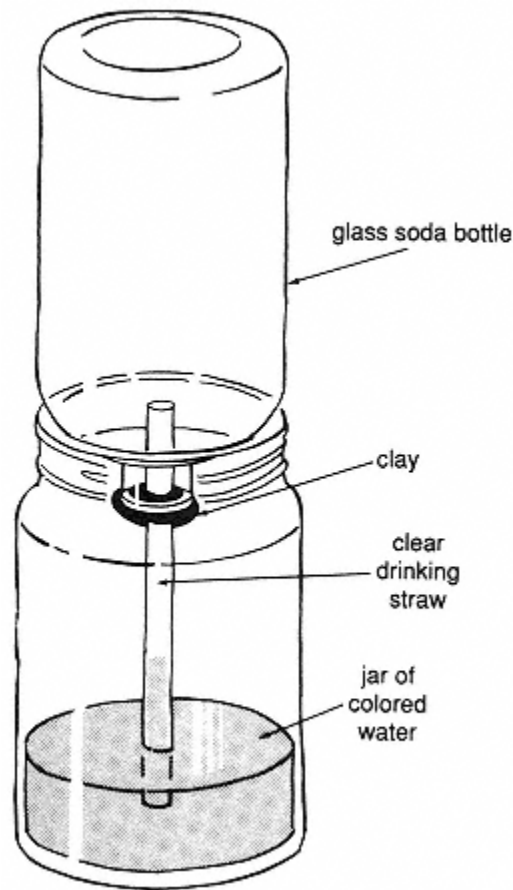

Figure 29.2
7. Stand the bottle, straw down, in the jar of colored water so that the straw extends below the surface of the water (see Figure 29.2).